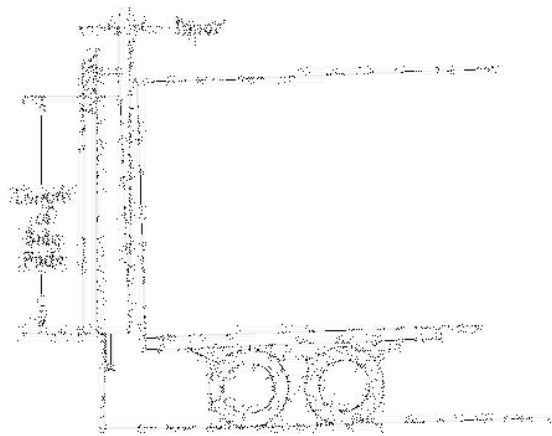

Fig. 49
- ? When the driveway is recessed and the driveway slope is more than 2% specify a tapered seal (Fig. 49). For each 1% of driveway grade taper the seal so its thickness at the top is 2.5 cm less than it is at the bottom